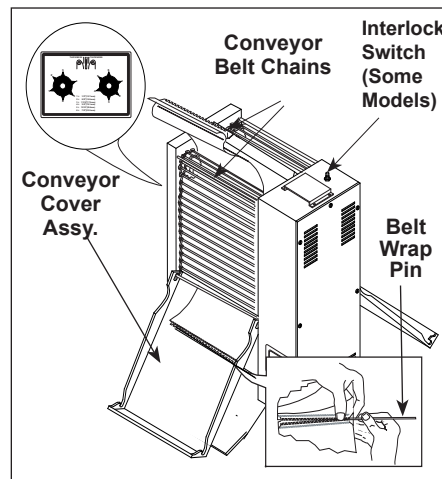

Figure 9. Removing Belt Wrap
3. Open both Conveyor Covers and pull the Belt Wrap Pin out of the zipper (Figure 9).